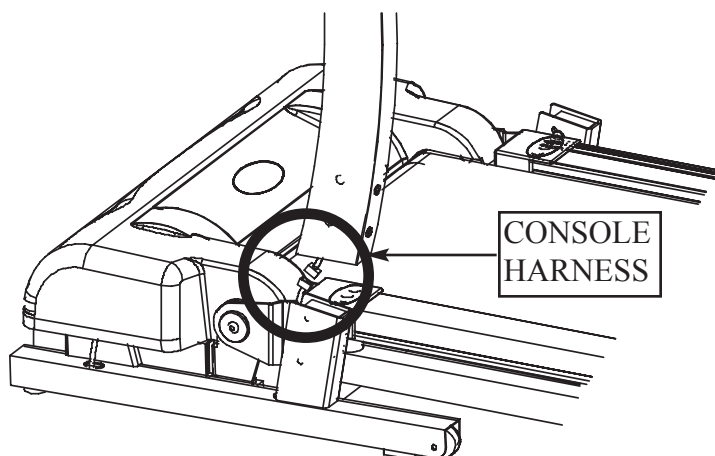
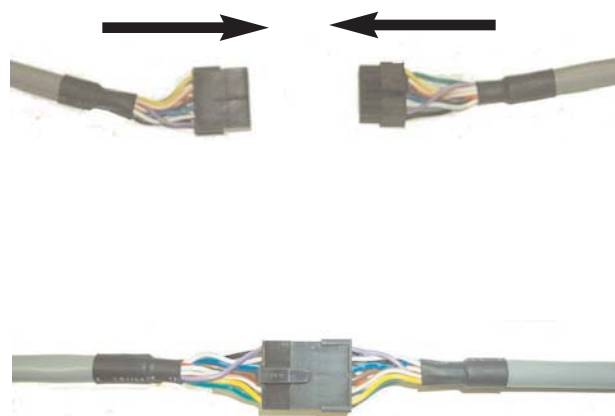

Figure 2: Console Harness Location
Figure 3: Console Harness Connection
2. Connect the Console Harness together. The harness is located in the Left Upright assembly. Refer to Figure 2 and Figure 3.